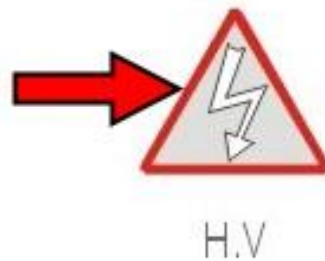

Figure 4-2-2 H.V LED
- (2) The high voltage output light indicator is ON in the front panel. (Figure 4-2-2)
- (3) Measure the output voltage and leak current.
- (4) Test time counting. For tests lasting longer than 100 seconds, their integral portion is displayed while the decimal portion is hidden; if it is longer than 999 seconds then it stops counting the time while the number 999 remains flashing on screen.